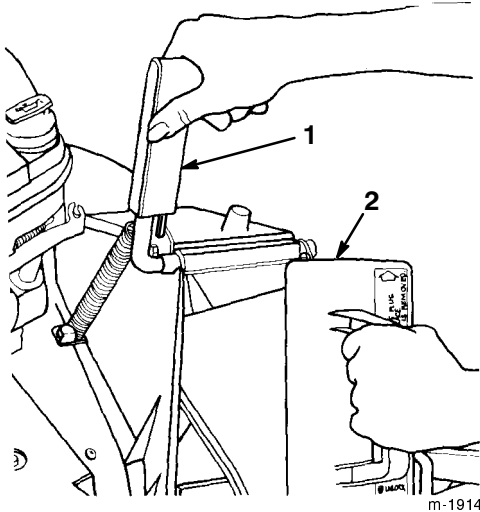

Figure 7
1. Open the discharge door by pulling forward on the handle and moving it rearward (Fig. 7). Hold the discharge door handle to prevent the spring-loaded door from closing while you insert the plug.
2. Since the plug is slightly wider than the discharge tunnel opening, rotate the plug clockwise slightly while inserting it (Fig. 7).